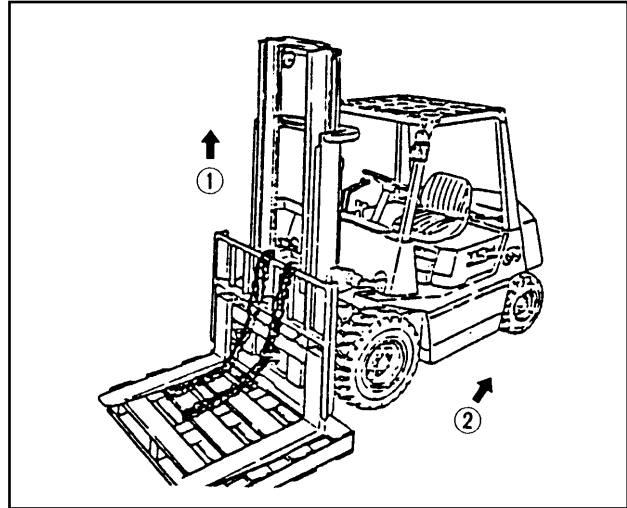

Fig. 8.11
- (1) Put a pallet to the fork and stop the truck on a level surface.
- (2) Lower the forks with the pallet to the ground.
- (3) Remove the joint link of the mast side anchor pin and remove the chain from the sheave.
- (4) Extend the lift cylinder rods to raise the inner channel. (See ① in Figure 8.11.)
- (5) Move the truck backwards after making sure that the carriage is removed from the inner channel. (See ② in Figure 8.11.)